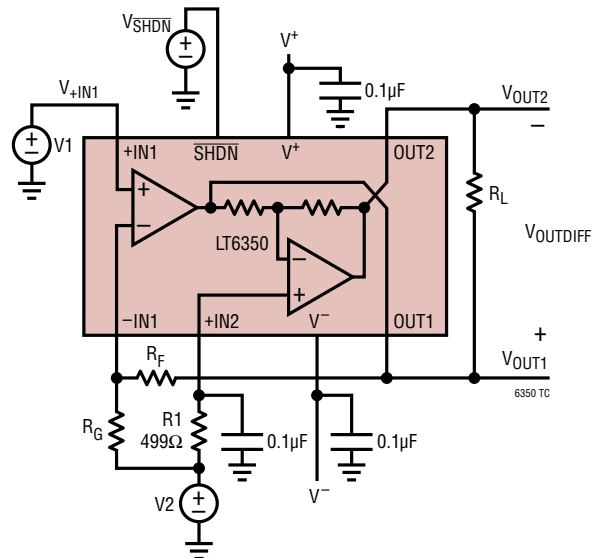

Figure 1. DC Test Circuit.
**ELECTRICAL CHARACTERISTICS** The ● denotes specifications that apply over the full specified temperature range, otherwise specifications are at  $T_A = 25^\circ\text{C}$ . Unless noted otherwise,  $V^+ = 5\text{V}$ ,  $V^- = 0\text{V}$ ,  $V_{+IN1} = V_2 = \text{Mid-Supply}$ ,  $V_{\text{SHDN}} = V^+$ ,  $R_L = \text{OPEN}$ ,  $R_F = \text{SHORT}$ ,  $R_G = \text{OPEN}$ .  $V_S$  is defined as  $(V^+ - V^-)$ .  $V_{\text{OUTCM}}$  is defined as  $(V_{\text{OUT1}} + V_{\text{OUT2}})/2$ .  $V_{\text{OUTDIFF}}$  is defined as  $(V_{\text{OUT1}} - V_{\text{OUT2}})$ . See Figure 1.
**Note 6:**  $V_{\text{OS2}}$  is measured as the total output common mode voltage offset (error between output common mode and voltage at V2).  $V_{\text{OS2}}$  includes the combined effects of op amp 2's voltage offset,  $I_B$ ,  $I_{\text{OS}}$  and mismatch between on-chip resistors and the  $499\Omega$  external resistor, R1 (See Figure 1).
$T_A = 25^\circ\text{C}$ ,  $V^+ = 5\text{V}$ ,  $V^- = 0\text{V}$ ,  $V_{+IN1} = V_2 = \text{Mid-Supply}$ ,  $V_{SHDN} = V^+$ ,  $R_F = \text{SHORT}$ ,  $R_G = \text{OPEN}$ ,  $R_L = \text{OPEN}$ . See Figure 1.
$T_A = 25^\circ\text{C}$ ,  $V^+ = 5\text{V}$ ,  $V^- = 0\text{V}$ ,  $V_{+IN1} = V_2 = \text{Mid-Supply}$ ,  $V_{SHDN} = V^+$ ,  $R_f = \text{SHORT}$ ,  $R_G = \text{OPEN}$ ,  $R_L = \text{OPEN}$ . See Figure 1.